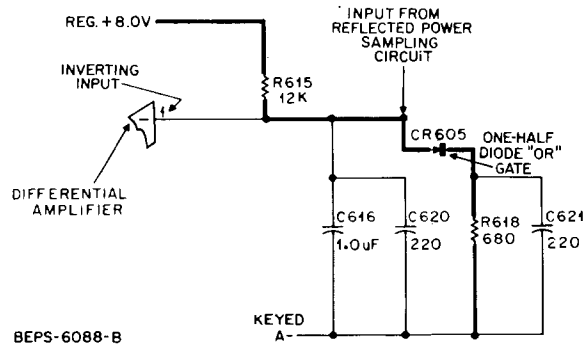

Figure 6. Reference Power Bias Circuit
2.2.4 When the impedances of the antenna circuitry (load) and the power amplifier are matched (a VSWR of 1:1), a bias voltage produced by the dc reference bias circuitry is placed on the inverting input (also called the "reference input") of the differential amplifier (see Figure 6).
Refer to Figure 6. The reference bias is developed (with a 1:1 VSWR) by the voltage divider made up of two resistors and a diode between the regulated supply voltage and the switched A- source. Since A+ is applied to the board continuously and A- is only applied when the transmitter is keyed by the push-to-talk switch, the larger capacitor connected between the inverting input and keyed A- provides a time constant which allows the inverting input bias to build up slowly when power is first applied. This prevents full power output from occurring until the leveling circuitry can react and reach a quiescent level.